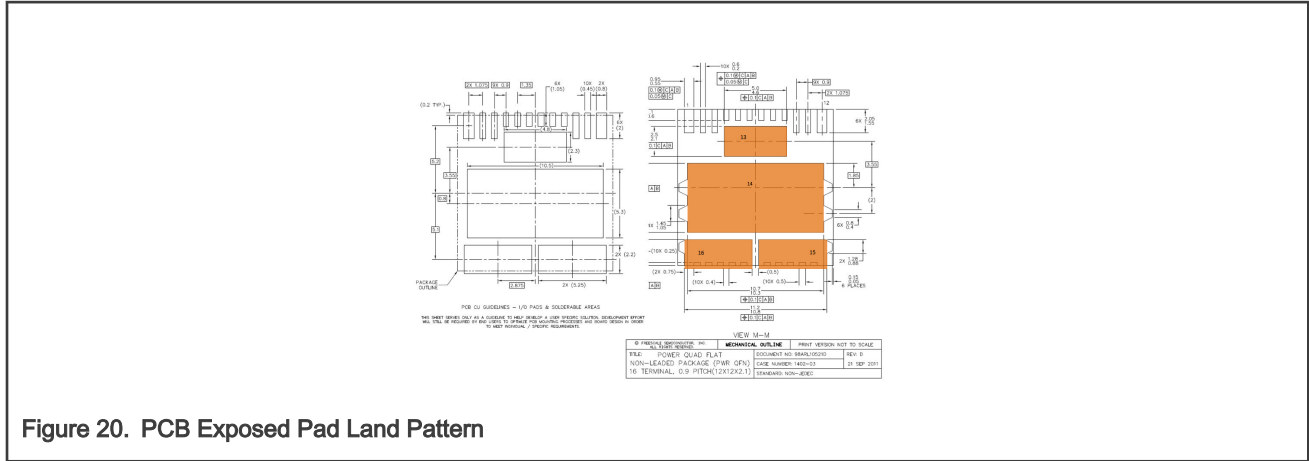

Figure 20. PCB Exposed Pad Land Pattern
- Making the PCB pad 1:1 shape may not be valuable. Instead, the PCB pad should be "square" to the package pad side. See Figure 20 for example.
- For exposed package pads extending to the package edge (such as pad #15 and #16 in Figure 20), the PCB Cu pad lengths should extend from the package edge by 0.2 mm.